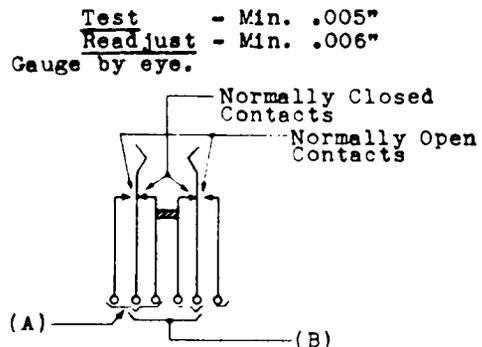

Fig. 7
(a) Normal Contact Sequence - Break-Make Combinations - Fig. 7 (A) - Unless otherwise specified the normally closed contacts operated directly by a plunger spring of an individual spring assembly shall
(b) Cross Sequence - Break-Make Spring Combinations on Coin Control Spring Assemblies - Fig. 7 (B) - Unless otherwise specified all normally closed contacts operated by the depression of the plunger shall break before any of the normally open contacts make by